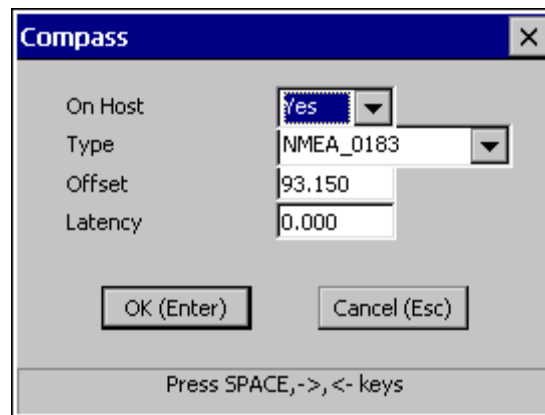

Figure 4-5: Compass Dialog Box
2. From the **Operation Screen**, open the **Config** menu and select **Compass**. The **Compass** dialog box appears (see Figure 4-5).